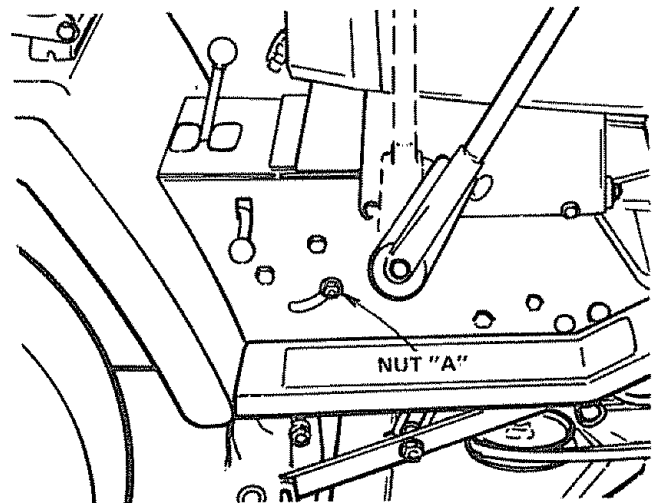

FIGURE 56
- c. Loosen Nut "A" located on outside of R.H. Chassis Frame (Fig. 56), slide Take-Up Idler down approximately 1/2" and tighten Nut "A".
- g. Loosen Nut "A" on R.H. outside of Frame (Fig. 56).